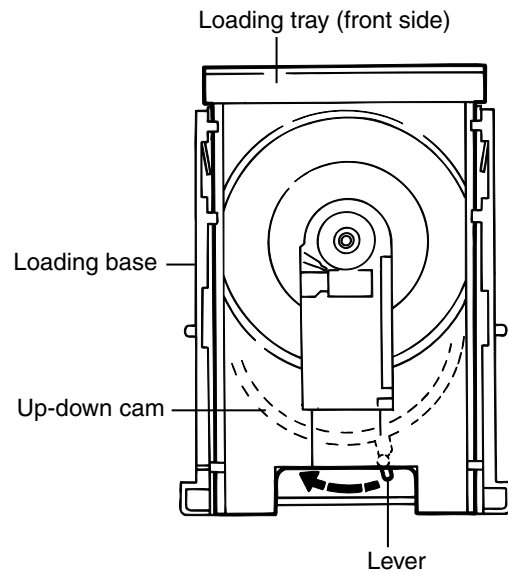

Figure 2
### ■ Removing the loading tray (refer to Figures 2 - 4)
1. Turn the up-down cam lever clockwise (in the direction of the arrow in Figure 2) to lower the position of the mechanism.